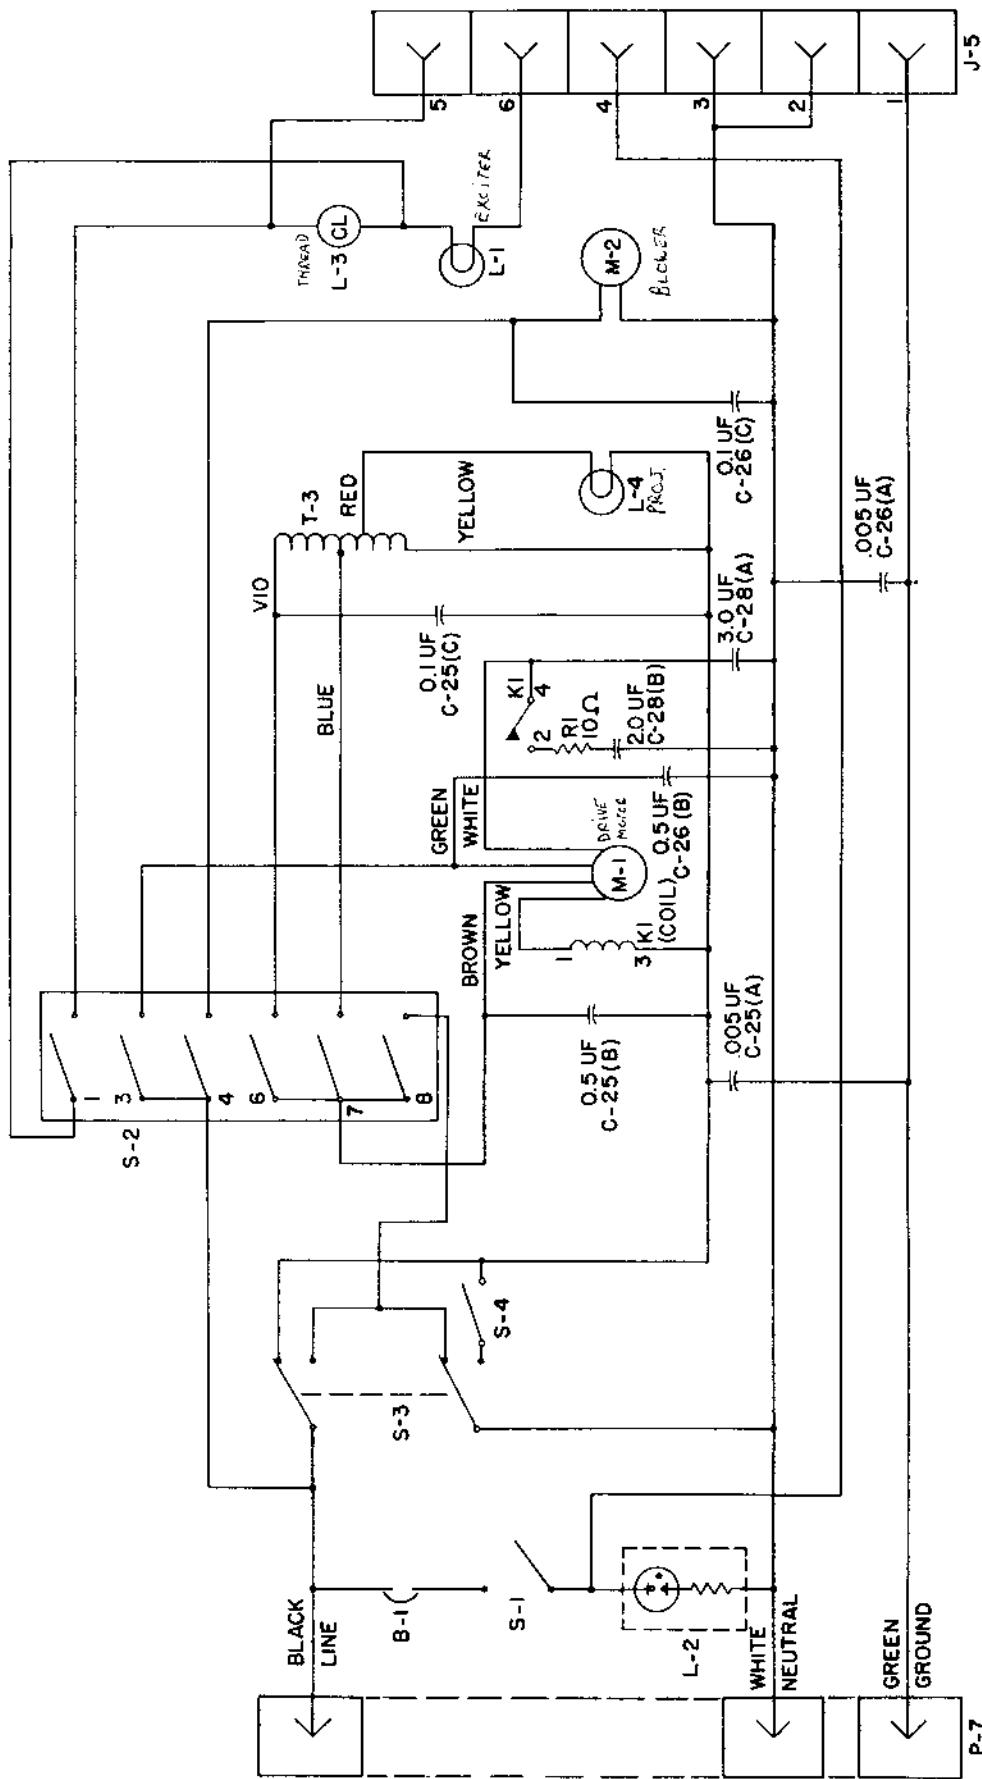

Figure 14. Schematic Diagram, Galaxy Model 15 Projector
Remove capacitor (166) and spring (167): push the capacitor inward to release it from lip of venturi plate (158). Disconnect leads from capacitor terminals. (This capacitor is replaced by the capacitor in the capacitor and relay assembly.) Connect the capacitor and relay assembly components as shown in the applicable schematic diagram, Figure 14 or 15.